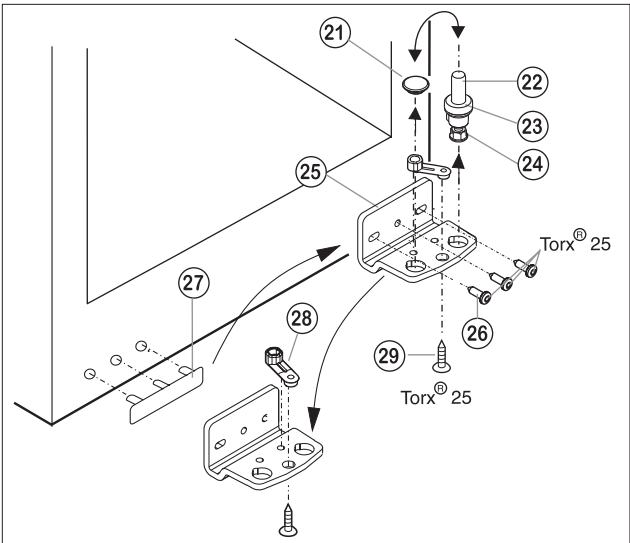

Fig.3
- Lift out the bearing pin Fig. 3 (22) together with washer Fig. 3 (23) and foot Fig. 3 (24).
- Lift off the stopper Fig. 3 (21).
- Unscrew Fig. 3 (26) the turn hinge Fig. 3 (25).
- Unscrew Fig. 3 (29) the bearing element Fig. 3 (28), transfer it to the opposite location hole of the turn hinge and screw it firmly into place.
- Carefully lift off the cover on the handle side Fig. 3 (27) and transfer it to the opposite side.
- Screw the turn hinge Fig. 3 (25) firmly into place on the new hinge side, possibly using a cordless screwdriver (with 4 Nm).
- Re-insert the stopper Fig. 3 (21) into the other hole.
- Re-insert the bearing pin Fig. 3 (22) together with washer and foot. In so doing, pay attention that the locating lug points backwards.